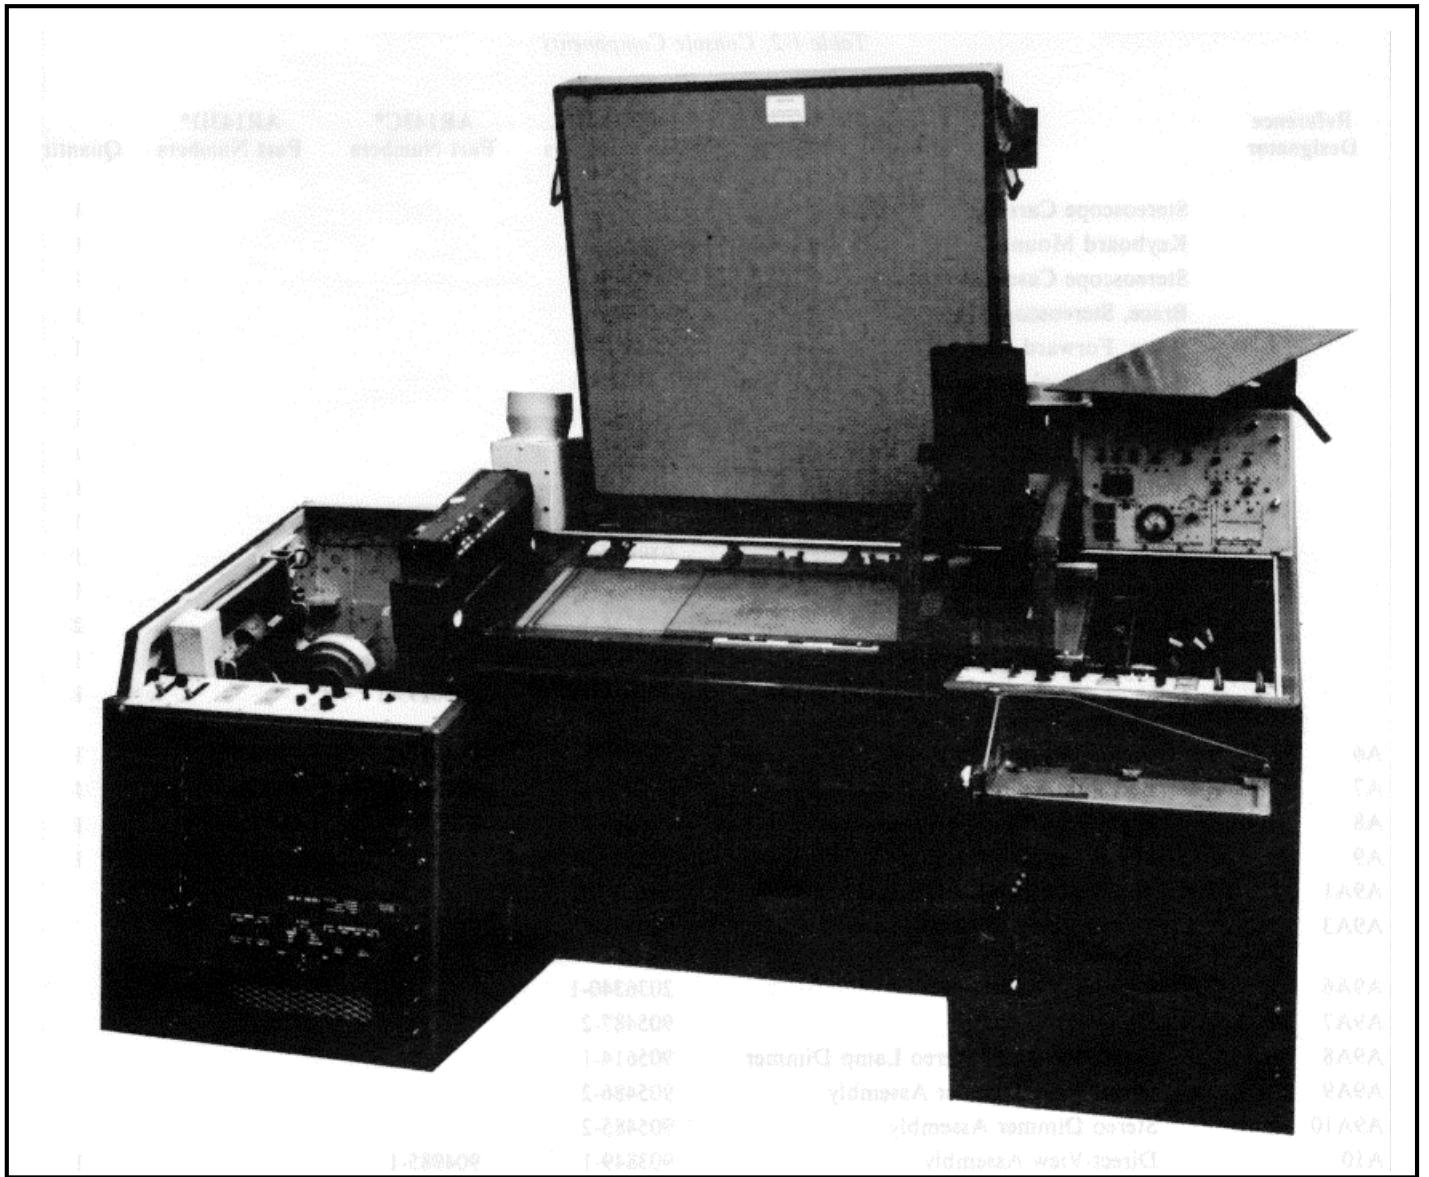

Figure 1-1. Photo Interpretation Console
1-3. The Photo Interpretation Console (figure 1-1), hereinafter referred to as the console, is utilized to support and assist the Photo Interpreter (PI) in the following operations.
1-6. Equipment covered by this manual is illustrated in figure 1-1.